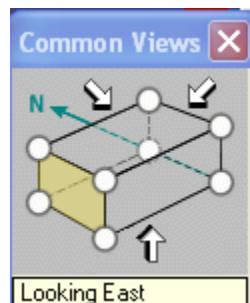

Figure 12. 2: Common Views Dialog Box
2. Locate the elbow **90 Degree Direction (Elbow)** from the **graphic View**, as shown in Figure 12. 3.